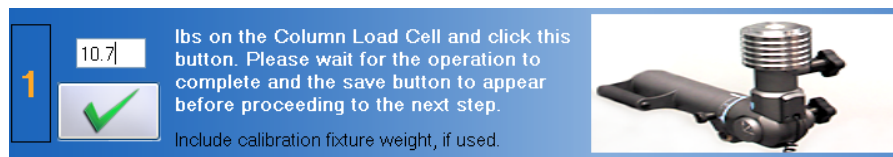

Figure 9-34. Column Load Cell - Verify the Weight
Step 2. Place the 10 lb calibration weight on the calibration fixture and type **10.7** (calibration fixture plus calibration weight) in the text field (Figure 9-34).
Step 3. Click on  to verify the weight (Figure 9-34).